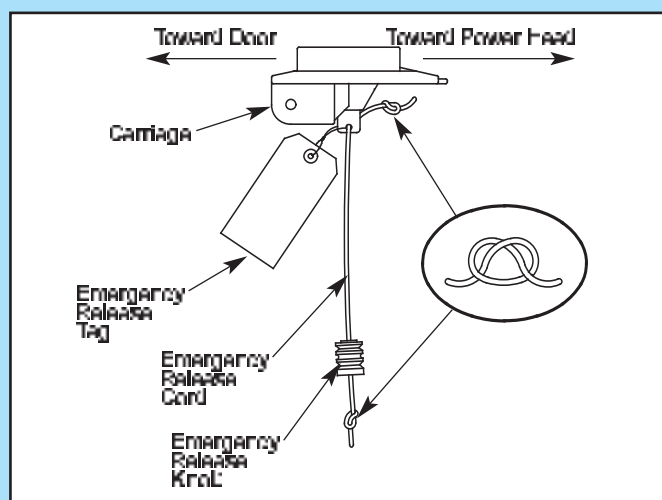

Fig. 1-1
1. Attach emergency release knob cord (Fig. 1-1).
2. Attach emergency release tag (Fig. 1-1).